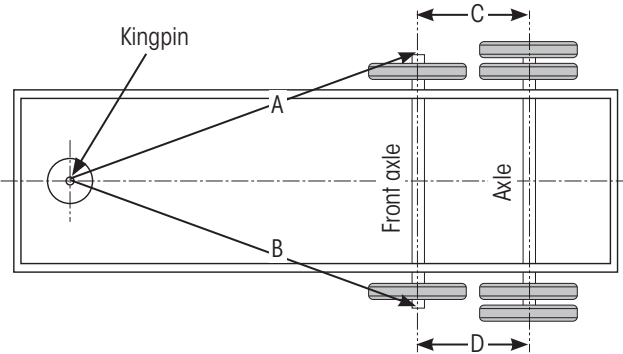

Figure 14: Measurements to check axle-axle alignment
The front (non-steer) axle is used as a starting point to measure thrust angle. First, the measurement target value (or tolerance range) is determined. Then, the distance from the kingpin (used as the trailer centerline) to matching points on each end of the front (non-steer) axle is measured (distances "A" and "B" in Figure 14). The difference between these two measurements is then compared to the measurement target value to determine the axle thrust angle. If the difference between the "A" and "B" measurements is larger than the target value, the axle must be adjusted to achieve an acceptable axle thrust angle. If the difference between the "A" and "B" measurements is smaller than or equal to the target value, axle thrust angle is within the tolerance range and no adjustment is necessary. The remaining axles are then measured with respect to the front axle and adjusted, if necessary, to an acceptable scrub angle.
Figure 14, the acceptable axle thrust angle remains constant over the length of the axle. However, the measurement target value that coincides with the acceptable axle thrust angle varies over the length of the axle. Because of a simple geometrical relationship, the measurement target value gets larger as you move farther away from the center of the axle.
**The typical trailer industry alignment specification for thrust angle is  $\pm 0.1$  degrees when measured from the kingpin to the axle track of a 71.5 inch track axle** (distances "A" and "B" in Figure 14). Hendrickson suspensions are no different. However, there are two additional clarifications to this specification that must be addressed. The first one deals with axle track (Figure 14). Using the value for axle track simplifies the axle thrust angle calculation, but it is impractical to use axle track for a measurement. Not only does the outer tire/wheel assembly have to come off to even attempt the measurement, but where specifically on the